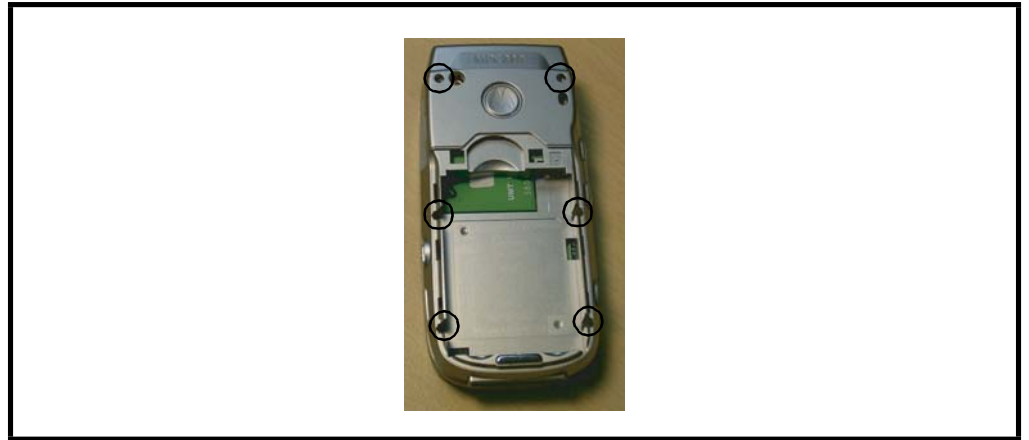

Figure 17. Removing the 6 Screws from the Rear Housing Cover
2. Use a screwdriver to remove the 6 screws from the rear housing cover as shown in Figure 17.